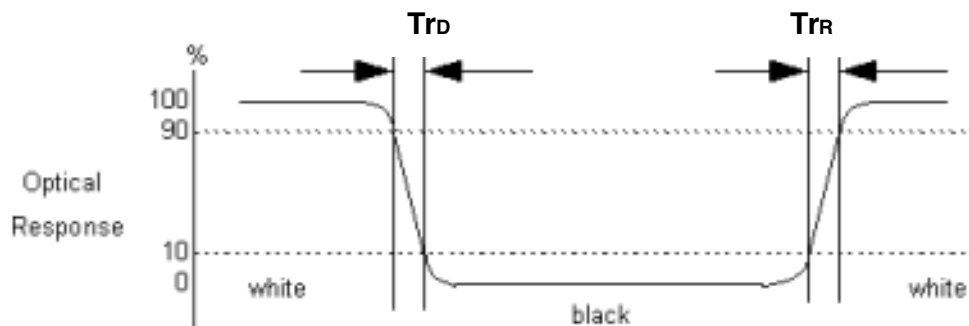

Fig.4-3 Response time
4. Response time is the time required for the display to transition from white(L_{255}) to black(L_0) (Decay Time, $Tr_D = T_f$) and from black(L_0) to white(L_{255}) (Rise Time, $Tr_R = T_r$). For additional information see Fig. 4-3.